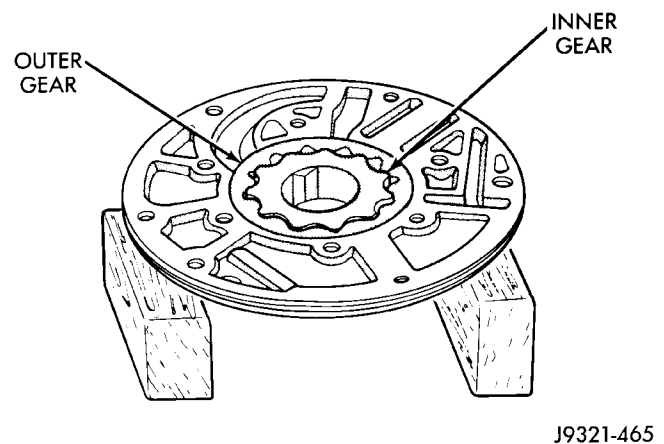

Fig. 148 Pump Inner Gear Installation
(5) Install pump inner gear (Fig. 148).